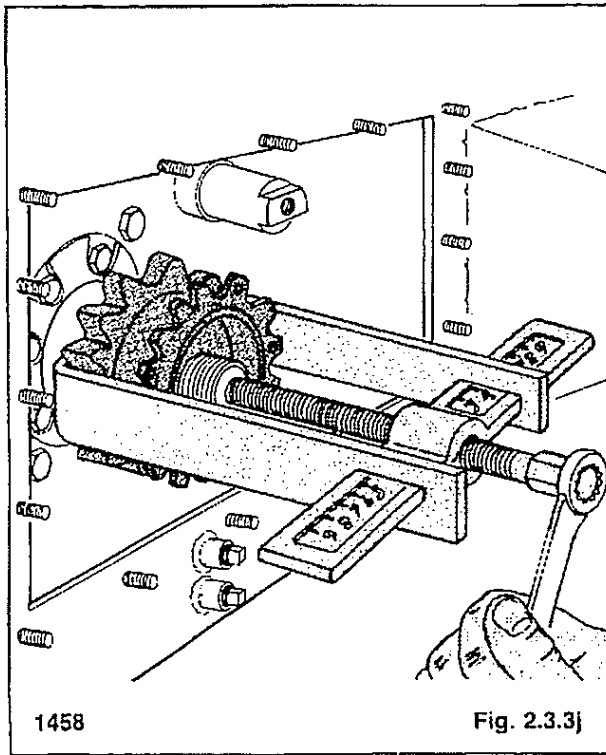

Fig. 2.3.3j
13. Using a proper gear puller, remove the sprocket and key from the torque motor shaft (fig. 2.3.3j).